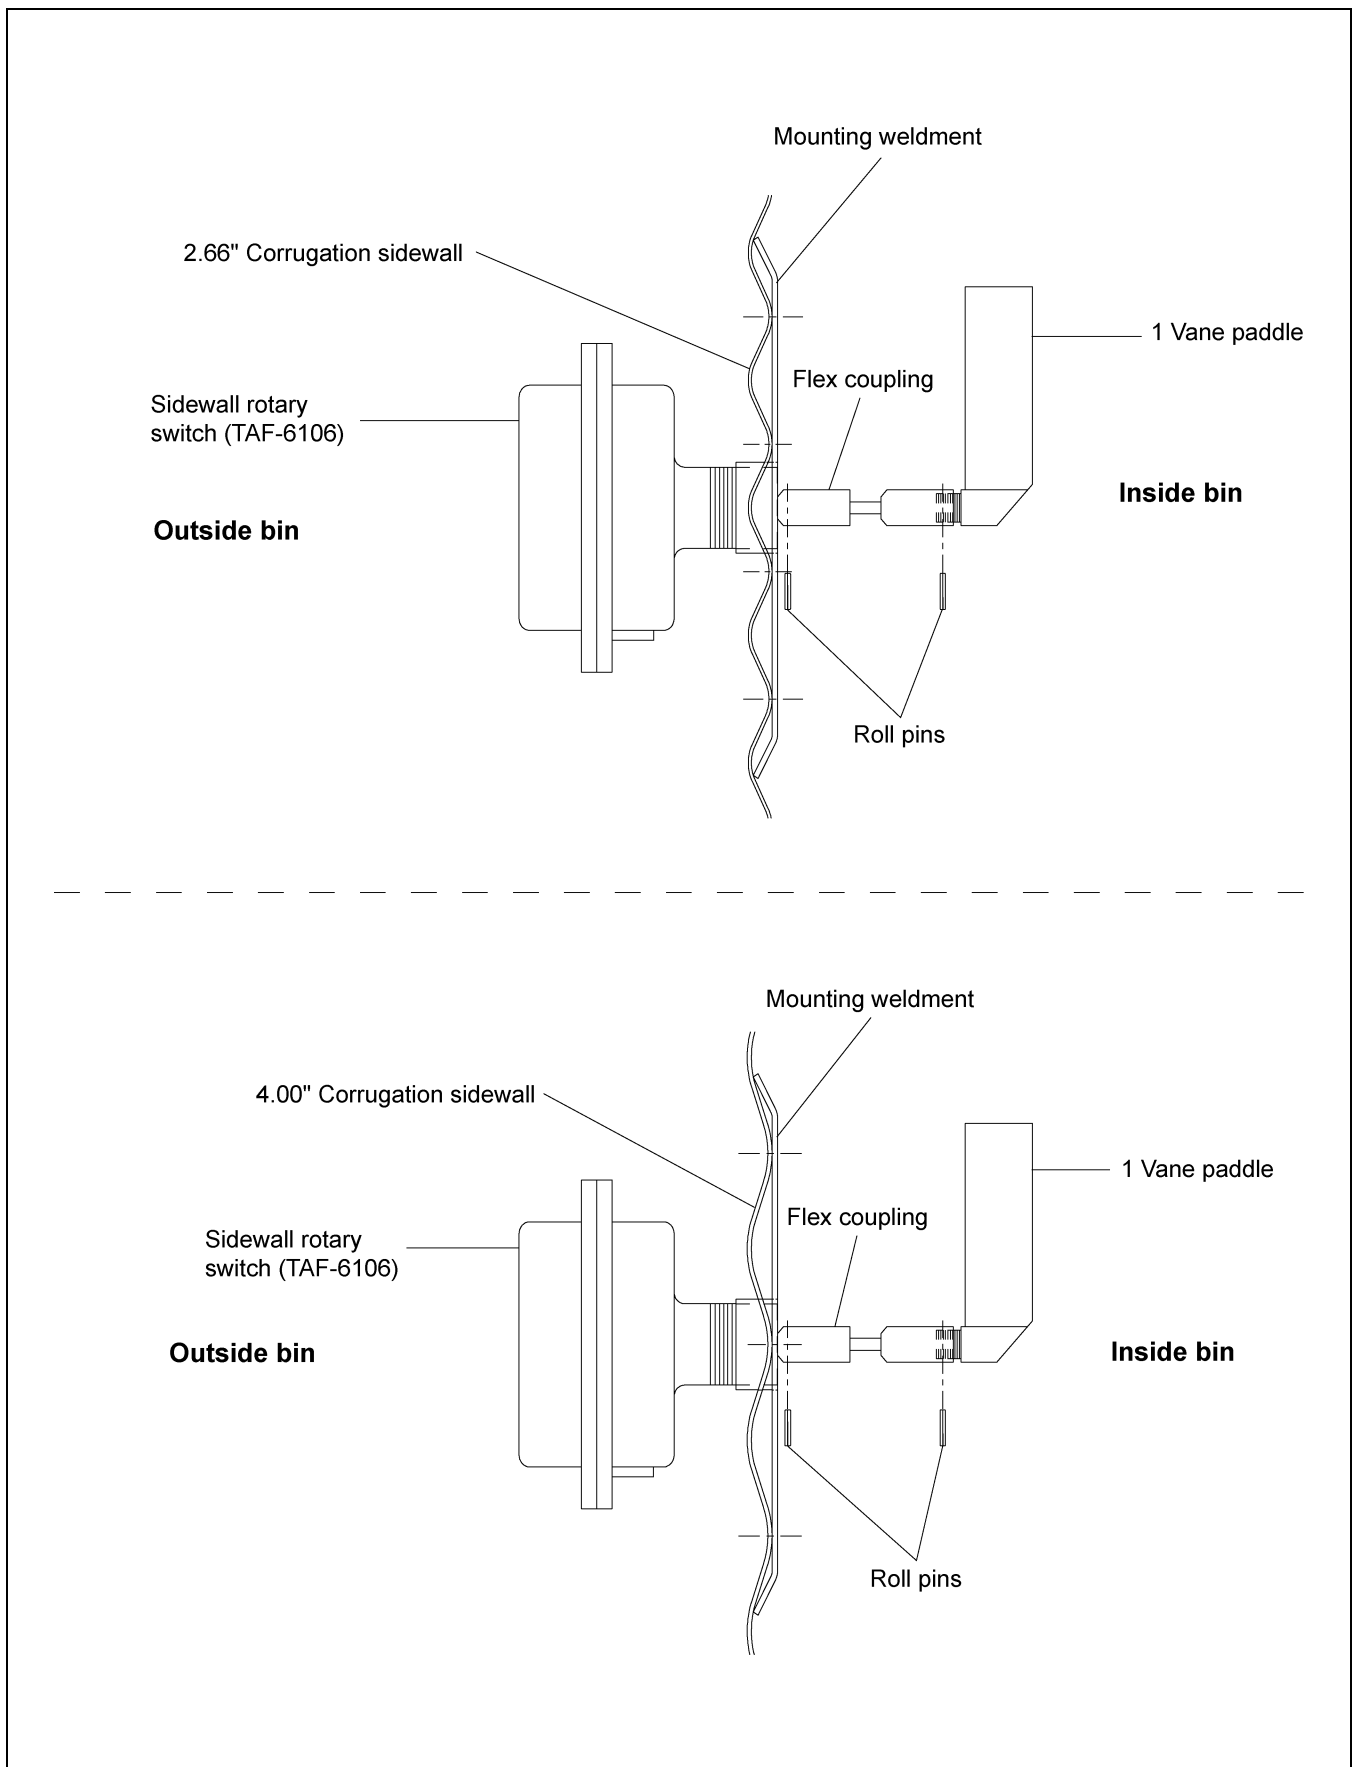

Figure 3P
4. Use the mounting plate as a pattern and drill four (4) 3/8" holes through the sidewall at the switch location so the plate can be bolted to the bin.
9. Attach the 1 vane paddle to the flex coupling as shown in Figure 3P on Page 26.